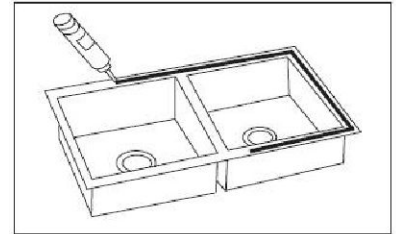

Figure 4
7. Clean sink flange and underside of cutout area of countertop, making sure that the area is smooth and free of grease. Apply continuous bead of silicone caulk evenly on top of sink flange. (FIGURE 4)